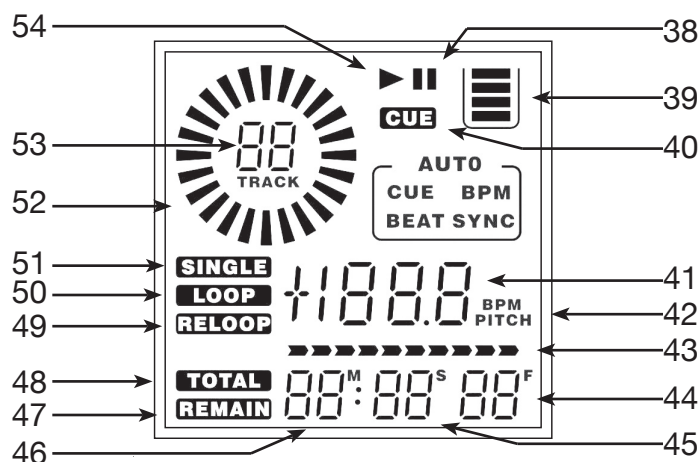

Figure 6
D. LCD DISPLAY PANEL (FIGURE 6)
41. PITCH/BPM METER - This meter will display either the pitch percentage applied by the *PITCH SLIDER* (7) or BPM.